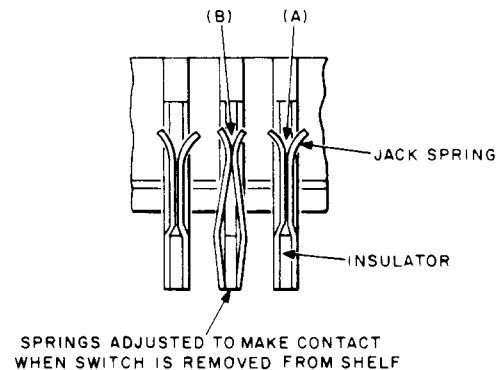

Fig. 7—Shelf Jack Spring Assembly
- (a) **Fig. 7(A):** With the plug removed from the jack, the clearance between the contact surfaces of each pair of jack springs, unless otherwise specified, shall be
- (b) **Fig. 7(B):** When the circuit requirements table specifies that certain springs shall make contact when the switch is removed from the shelf, the springs required to make contact shall be tensioned against each other so when the pressure of one spring of a pair is removed there shall be follow on its mating spring of